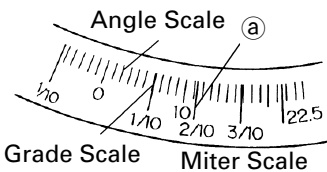

Fig. 32
- (2) Re-tighten the side handle to secure the turntable in the desired position.
- (3) The miter scale (Fig. 32) indicates both the cutting angle on the angle scale and the gradient on the grade scale.
- (5) Therefore, to cut a workpiece at a grade of 2/10, set the indicator to position ② as indicated in Fig. 32.